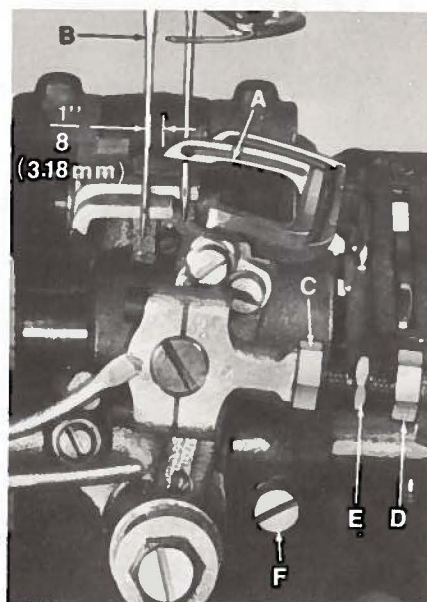

FIGURE 4
Insert a new set of needles in the needle holder (Type and Size as specified). The looper gauge is $\frac{1}{8}$ inch (3.18 mm), set the front looper (A, Fig. 4) so the distance from the center of the left needle (B) to the point of the front looper is $\frac{1}{8}$ inch (3.18 mm), when the looper is at its farthest position to the right. Looper gauge No. 21225-1/8 can be used in making this adjustment.
If adjustment is required, loosen nut (C, Fig. 4) (it has a left hand thread) and nut (D) on connecting rod (E), turn the connecting rod forward or backward to obtain the $\frac{1}{8}$ inch (3.18 mm) dimension. Retighten both nuts,
If adjustment is necessary loosen lock screw (F, Fig. 4) and position the looper point to the needle as described. Tighten lock screw (F) when setting is obtained and recheck the adjustment.